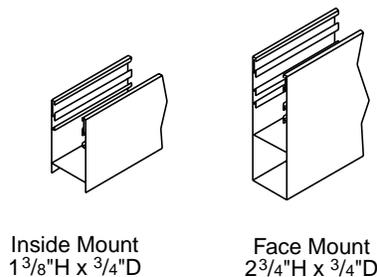

Figure 12
- ② Install sill channel between side channels using appropriate fasteners (see Fig. 12). NOTE: Be sure of a centered and snug fit between side channels.